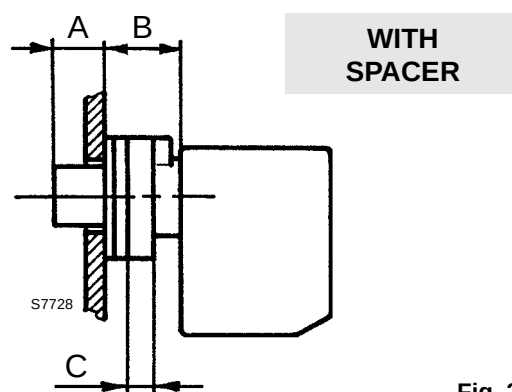

Fig. 2
- reduce the distance A)(Fig. 2), when the combustion chamber is particularly short.